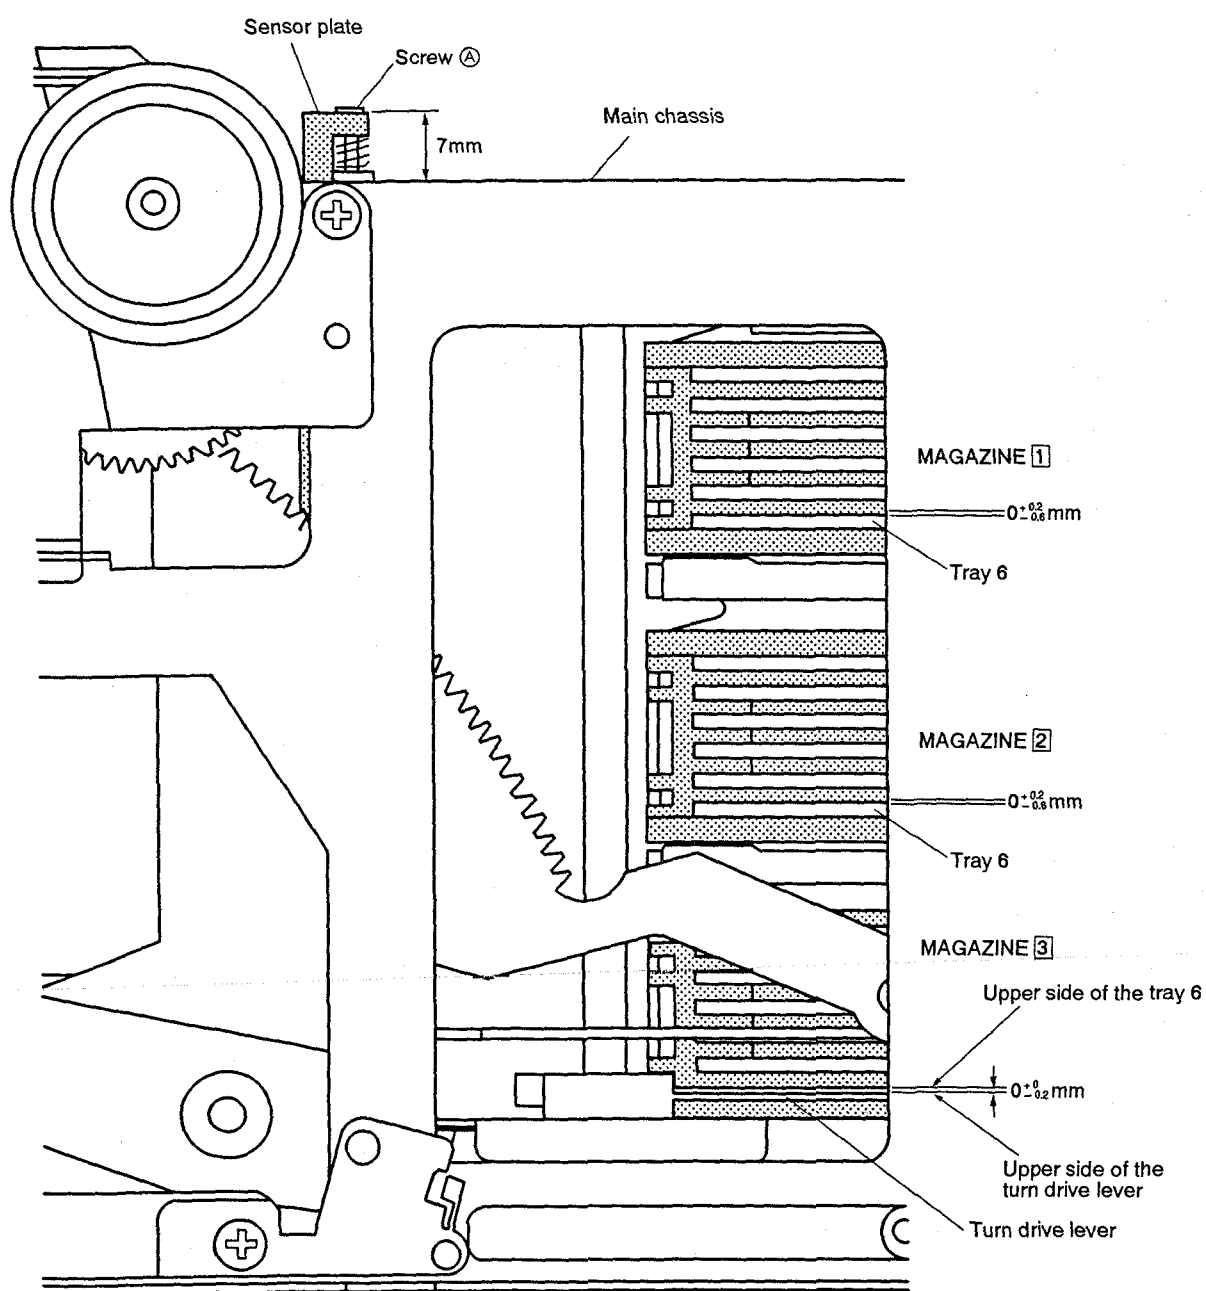

Figure. 6-1
1. Adjust screw ① until the top of the sensor plate is 7mm above the main chassis. (Figure 6-1)
3. Insert the CD magazine into the Opening of MAGAZINE ③.
(Figure 6-1, MAGAZINE ③)
(Figure 6-1, MAGAZINE ①)